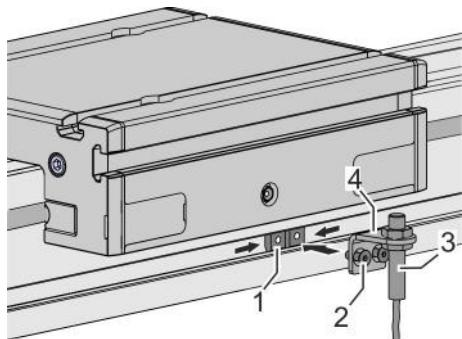

Fig. 36: Assembling the limit switch
1. ➤ Insert and position the slot stones (Fig. 36/1) in the slot of the guide profile.
2. ➤ Place the limit switch (Fig. 36/3) along with a mounting bracket (Fig. 36/4) at the height of the inserted slot stones.
3. ➤ Tighten 2 screws (Fig. 36/2):